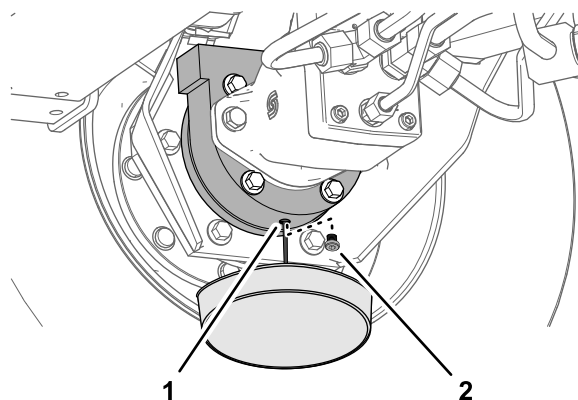

**Figure 74**
3. Place a drain pan under the planetary hub, remove the drain plug at the 6 o'clock position, and allow the oil to fully drain (Figure 74).
5. Install the drain plug into the drain hole of the planetary housing (Figure 74).
2. Remove the fill plug at the 12 o'clock position and the check plug at the 3 o'clock position (Figure 74).